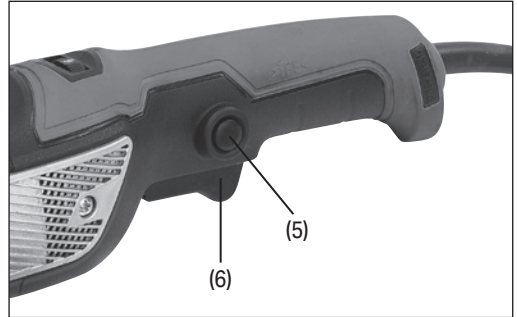

Fig.10
- Turn the variable speed dial (3) from 1 to 6 to select the appropriate speed.
7.2 Trigger Switch (Fig.10)